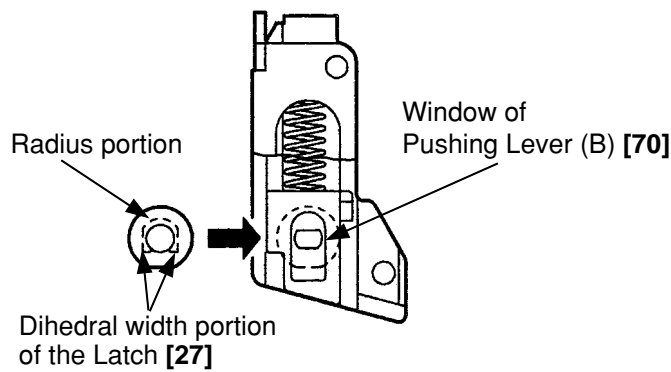

Fig. 19
- Align the dihedral width portion and the radius portion of the Latch [27] to the window of Pushing Lever (B) [70] when reassembling (Fig. 19).